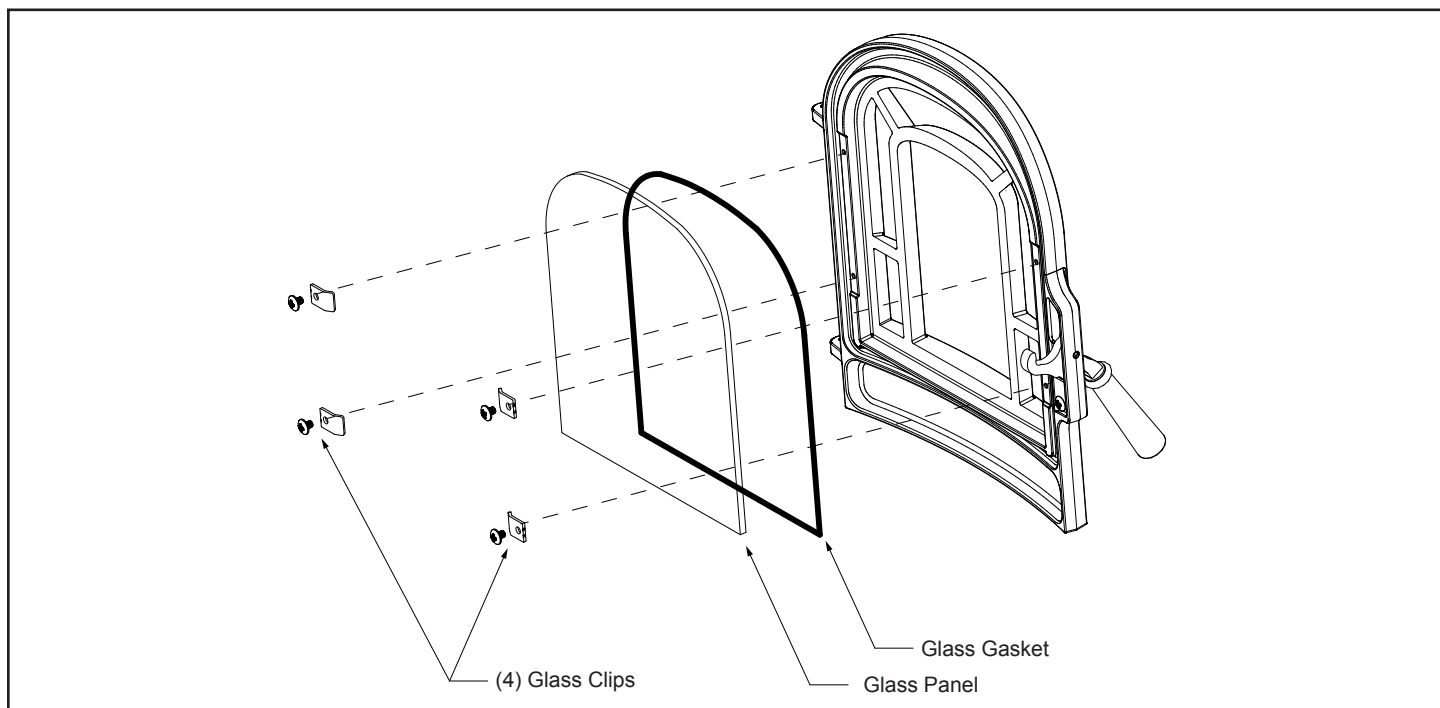

Figure 9.1 - Door glass installation.
Replace glass only with Vermont Castings part no. 3-40-950144. The glass panel rests on a cushion provided by gasket, and is held in place by (4) clips, Figure 9.1. Remove the door from the stove and place it on a sturdy, level work surface. Use a towel to protect the finish.
1. Remove the (4) Retainer Clips. (one phillips head screw on each clip).
2. Replace the gasket as shown in Figure 9.1.